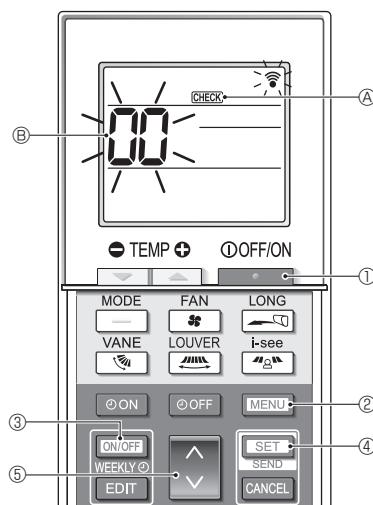

Fig. 7-6
■ Self-check (Fig. 7-6)
- Press the button ① to stop the air conditioner.
- If the weekly timer is enabled (**WEEKLY** is on), press the button ③ to disable it (**WEEKLY** is off).
- Press the button ② for 5 seconds.
- CHECK** ⑤ comes on and the unit enters the self-check mode.
- Press the button ⑥ to select the refrigerant address (M-NET address) ⑦ of the indoor unit for which you want to perform the self-check.
- Press the button ④.
- Press the button ①.
- CHECK** ⑤ and the refrigerant address (M-NET address) ⑦ go off and the selfcheck is completed.